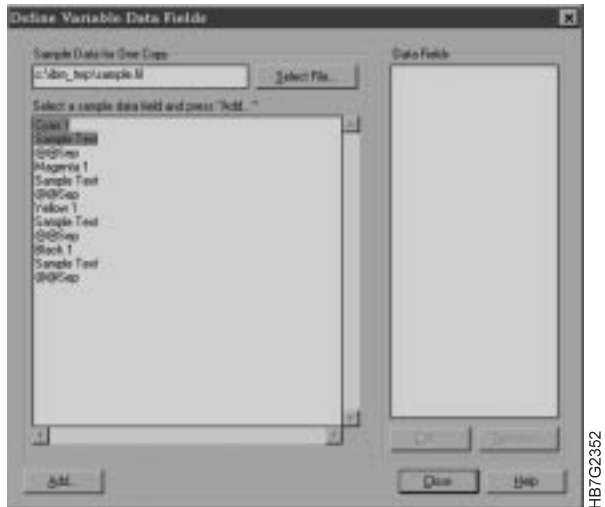

Figure 100. Define Variable Data Fields Dialog
- \* **Note:** In the sample, the separator field is @@Sep, as shown in Figure 100.